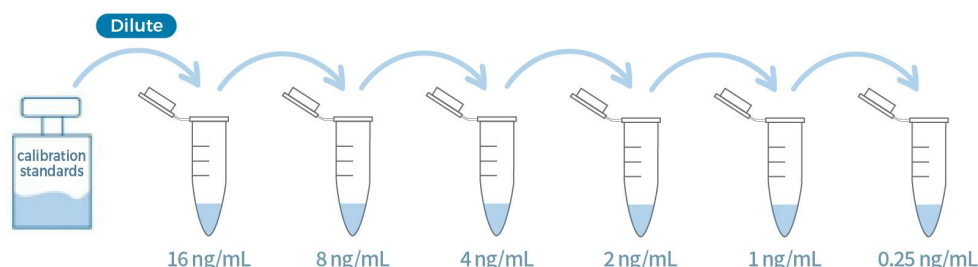

Figure 3. Graphic scheme of HSA Calibration Standard solutions
(3) Preparation of Calibration Standard solutions
- Prepare HSA Calibration Standard solutions as indicated in Fig 3 and Table 3.